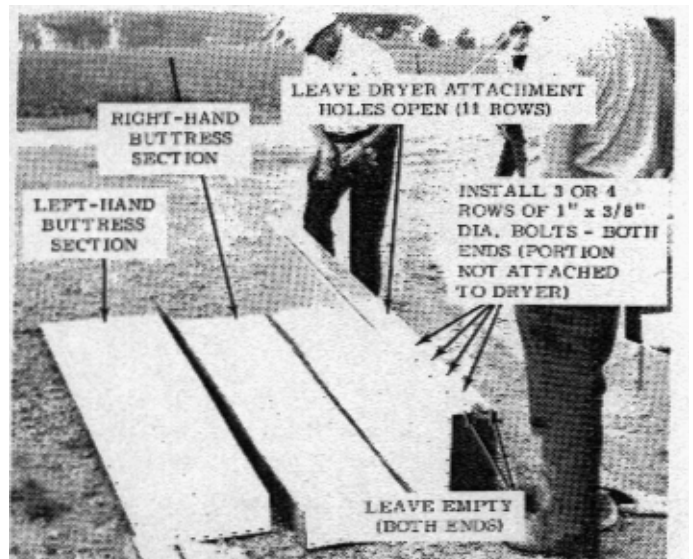

Fig. 2. - CONNECTING RIGHT AND LEFT-HAND
- B. Loosely connect the right and left-hand buttress column sections together by installing 3 or 4 rows of 1" x 3/8" Dia. bolts at each end as shown in Fig. 2.
- B. Assemble the right and left-hand intermediate columns, similar to the bottom buttress parts shown in Fig. 2.